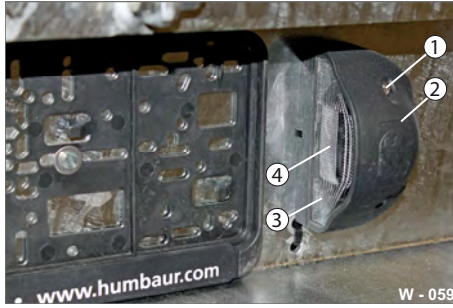

Fig. 58 Licence plate light 24 V
- ▶ Release the fixing screws (Fig. 58/1).
- ▶ Open the lamp carefully (Fig. 58/2).
- ▶ Remove the light lens (Fig. 58/3).
- ▶ Replace the light (Fig. 58/4).